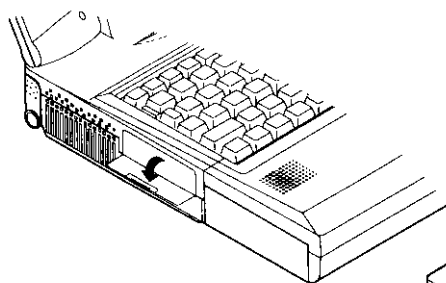

Figure 2-19
1. Open the access door of PC card sockets (Figure 2-19).